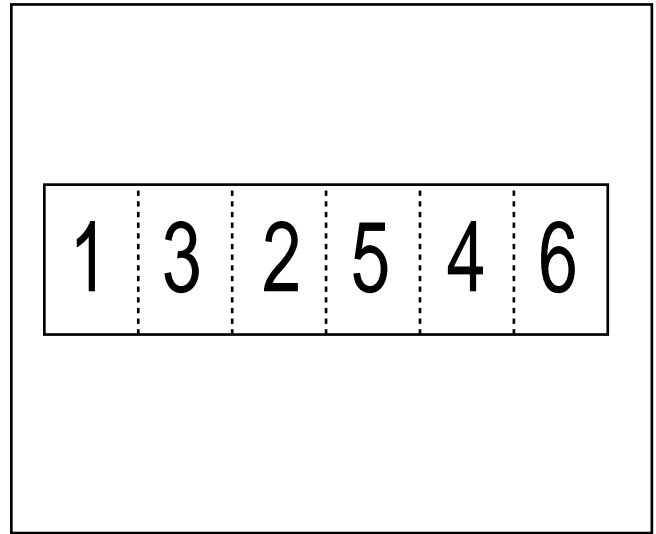

Figure 18.
10. When making rectangular mortises, we recommend you follow the sequence of cuts shown in **Figure 18**.